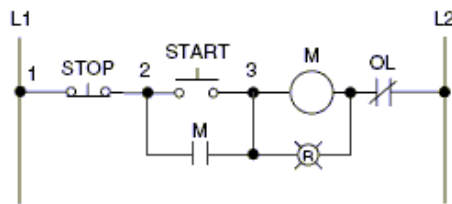

Fig. 17 Pilot Light indication (running).
5. Pilot Light Indicator (Motor is Running - Fig.17)